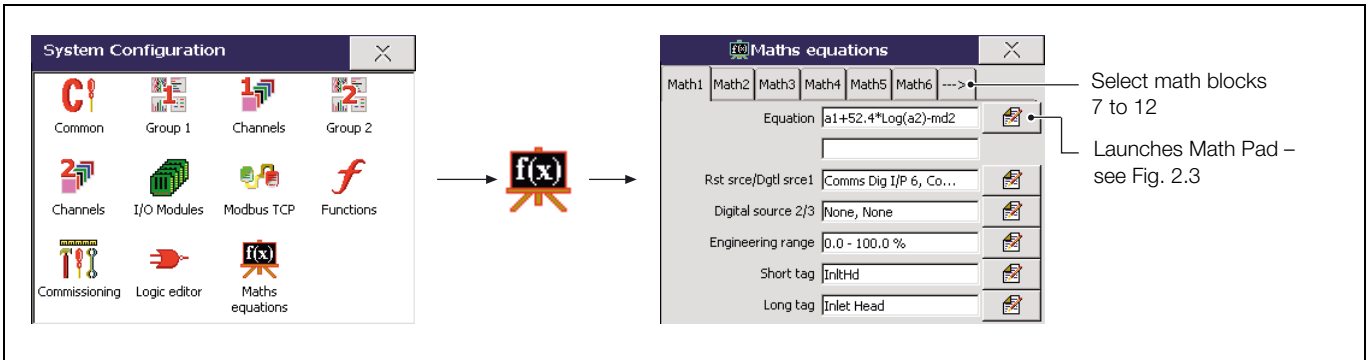

Fig. 2.2 Launching the Math Block Editor (Math Pad)
- Up to twelve Math Blocks, configured individually using the 'Math Pad' – see Fig. 2.2, page 7.
2.8 Creating Math Blocks – Figs. 2.2 and 2.3